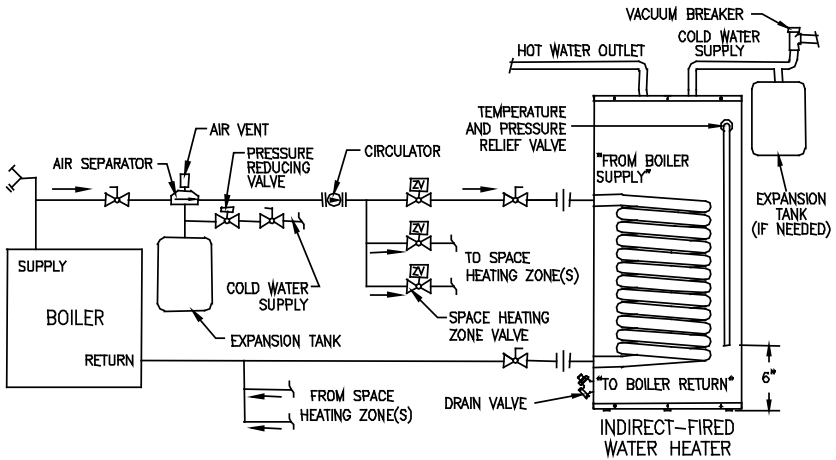

Figure 2 - Water Boiler Piping with Zone Valves
1. For a space heating system that utilizes ZONE VALVES, refer to Figure 2. The indirect-fired heater connection labeled “FROM BOILER SUPPLY” should be piped to the boiler supply piping. Mount the circulator making sure the flow arrow points toward the water heater. The use of shut-off valves and unions are recommended for future service convenience. The use of an air separator and vent is recommended to eliminate air in the system. Pipe and fittings between the boiler and indirect-fired heater must be ¾” diameter or larger.